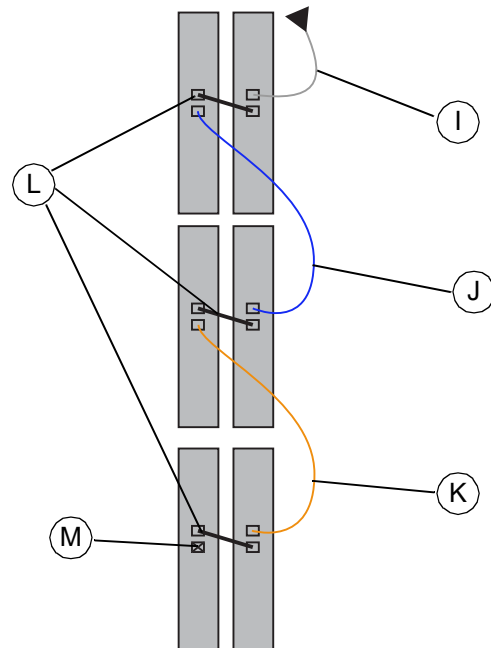

Figure 4-33. Module COM Cabling (2 of 2)
7. See **Figure 4-33**. Continue connecting the remaining battery modules. While installing CAT 5 cables:
- Connect battery modules sharing a shelf with a black jumper cable (L) going from the rear battery COM OUT port to the front battery COM IN port.
- Do not install a CAT 5 cable to the last battery module's COM OUT port (M).